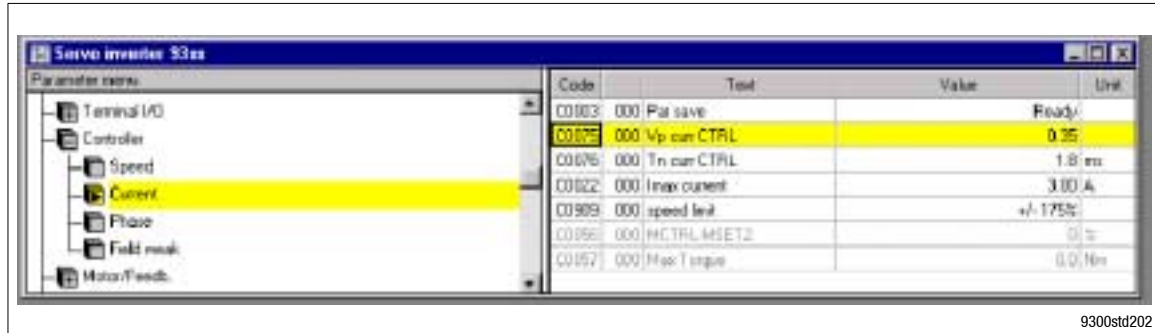

Fig. 5-2 Parameter menu for current controller adjustment
- The current controller is adjusted under codes C0075 (V_p) and C0076 (T_r). For this, call the parameter menu in Fig. 5-2.